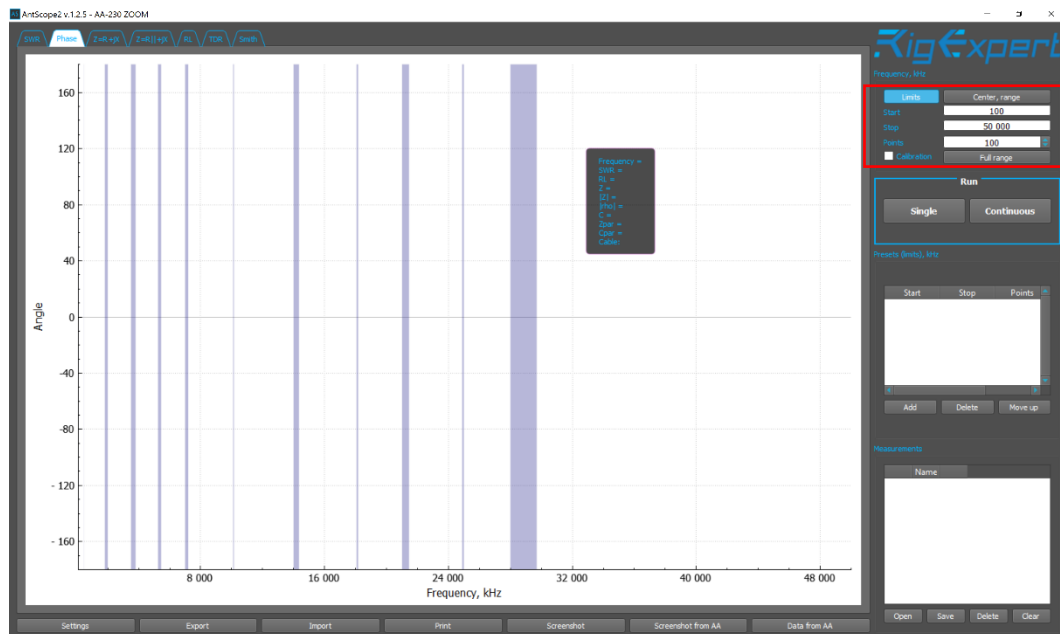

Figure 11-56: AntScope main screen
5. In the top right corner of the main screen, set the frequency range – Start 100, Stop 50000 kHz and Points 100 as shown in Figure 11-56.